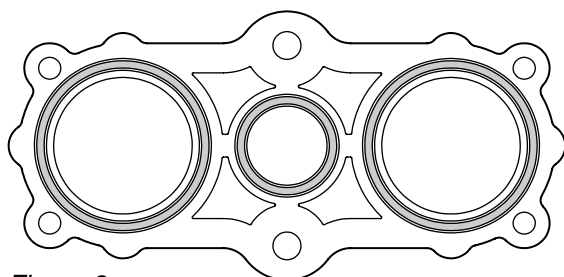

Figure 3.
5. Remove and discard the 3x O rings sat on the underside of the purge block. (See Figure 3.)
6. Insert the new O rings from the service kit provided and replace into the grooves on the underside of the purge block. (See Figure 3.)